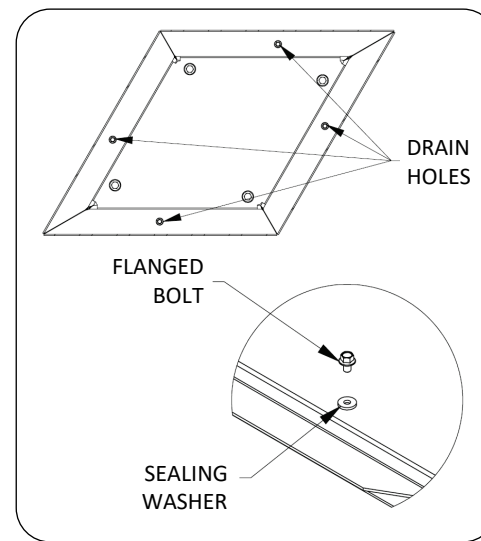

Fig. 1
1. Specific hardware may be removed on bottom of planter to allow for drainage. Refer to Fig. 1 for locations. Do not remove any other hardware on planter. Using a 3/8" box wrench or socket wrench, remove the flange hex bolt, and sealing washer before filling planter. Drain hole will be a 1/4-20 threaded hole. There are four (4) drain holes for each planter.